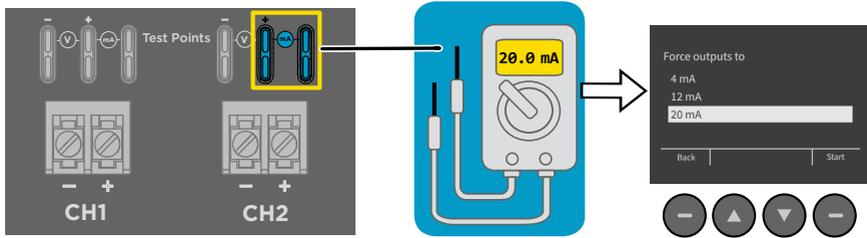

Figure 59 Multimeter test point overview
2. Connect a multimeter to the mA testing points located above the output screw terminals on the transmitter component board (see Figure 59 \(page 111\)).
- 2. Connect a multimeter to the mA testing points located above the output screw terminals on the transmitter component board (see Figure 59 \(page 111\)).